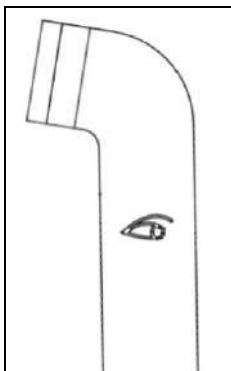

Fig. 21 – Sketch of the eye mark on the metal frame
- chin rest should be positioned so that the subject's eye is aligned to the mark found on the left side of the metal frame (see Fig. 21). If this is not the case the chin rest height needs to be adjusted (see par. 10.5).